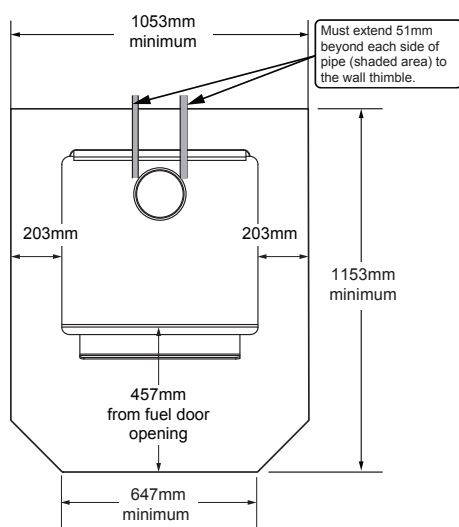

Figure 9.2
In Canada, similar floor protection must be provided 18 inches (457mm) in front and 8 inches (203mm) from the sides and rear of the appliance unless the hearth pad is placed against the wall (**Figure 9.2**). Then the clearance may be reduced using double wall pipe and the **Clearance to Combustibles** table listed on page 12.
***Exception:** Non-combustible floor protector must extend beneath the flue pipe when installed with horizontal venting and extend 2 inches (51mm) beyond each side; **See Figure 9.2**